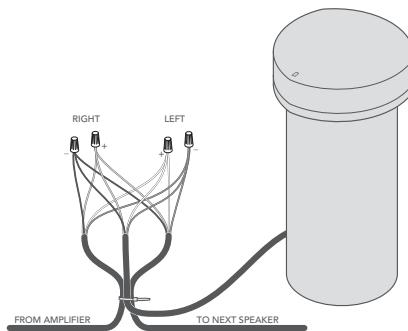

Figure 8
- As with the satellite speaker installation, create a loop approximately 10" in length, pulling the wire from the spool side. Leave 14-16" of excess wire so that the wire doesn't kink or pull taut when covering the wire with dirt in the trench. Use a wire tie to hold the wire loop in place and provide strain relief (see Figure 8).